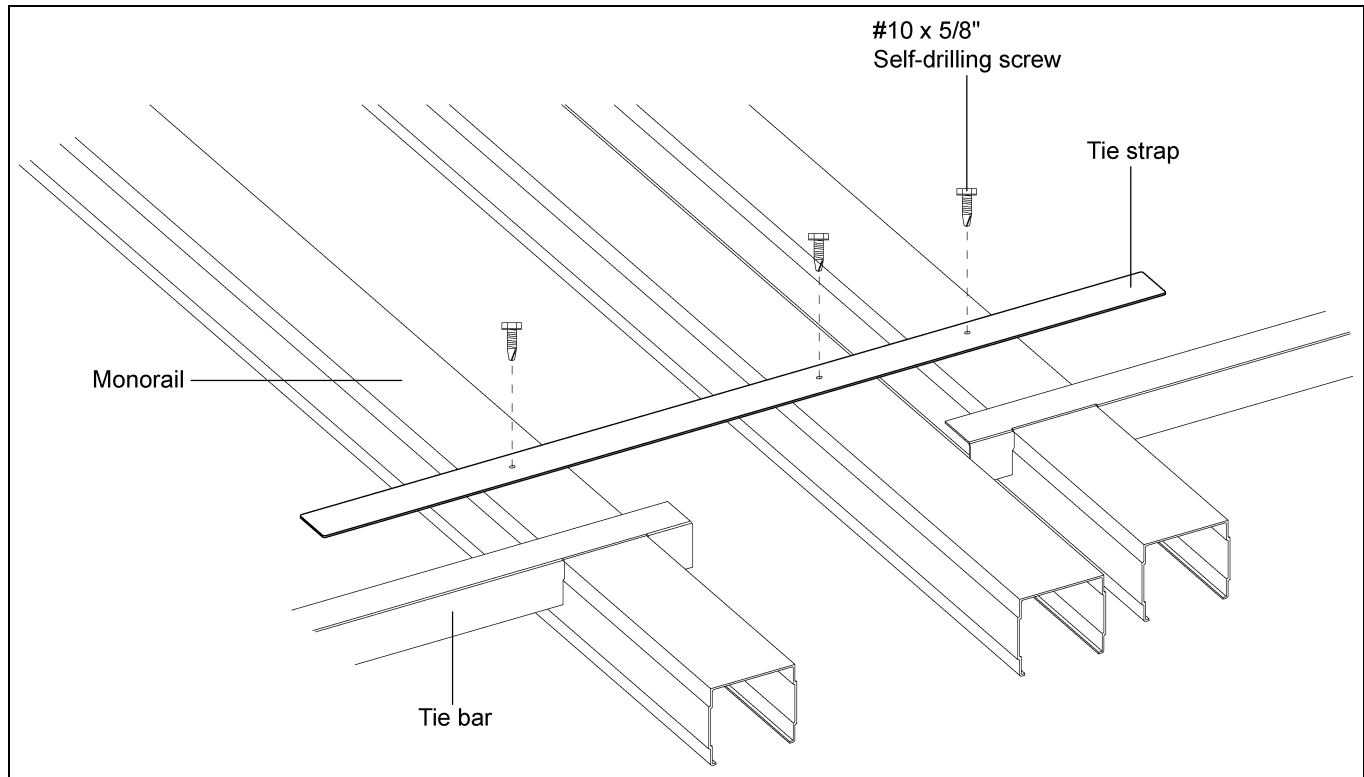

Figure 4D *Strap Detail*
1. Tie straps should be used when a tie bar cannot be used to connect rails together due to special spacing of monorail. Tie strap should be connected to all three rails using self-drilling screws. *(See Figure 4D.)*